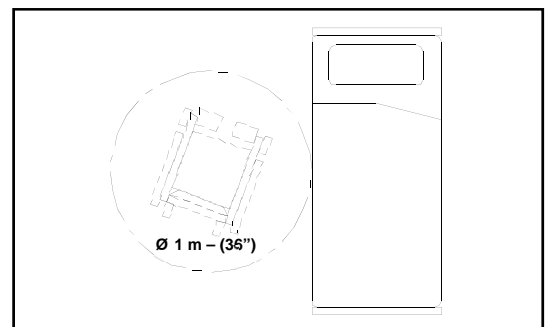

Figure 4
- ◆ Allow 1000 mm / 36" of the open area for transfer working space (see Figure 4).